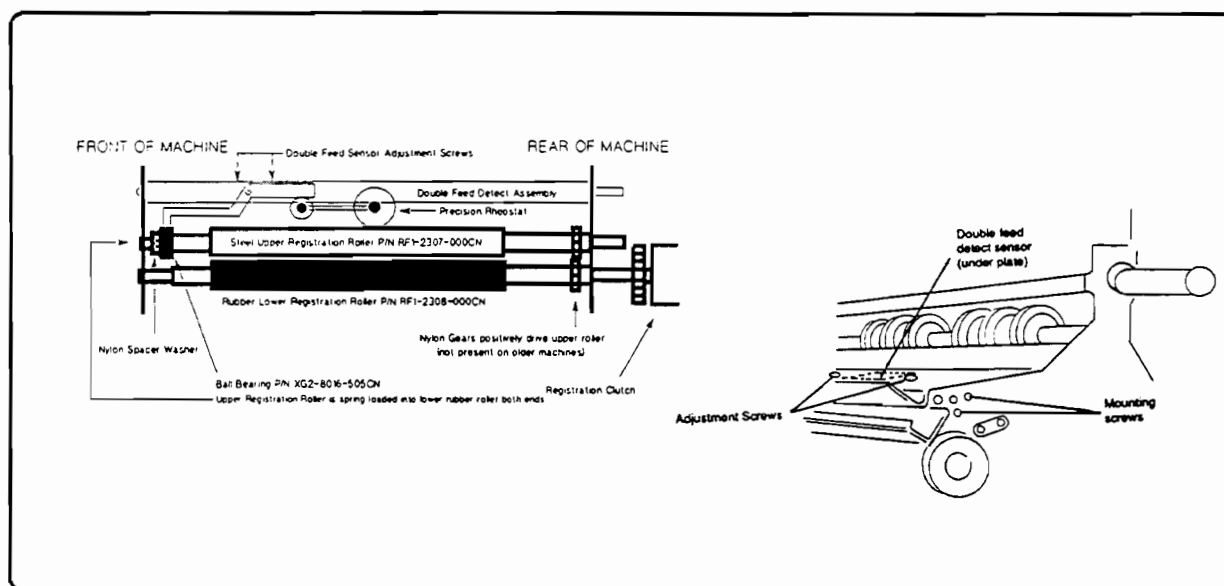

Figure 7-50. Double Feed Detect Sensor Adjustment
3. Locate the Double Feed Detect mounting bracket (metal plate directly below the Developer area - see Figure 7-50).